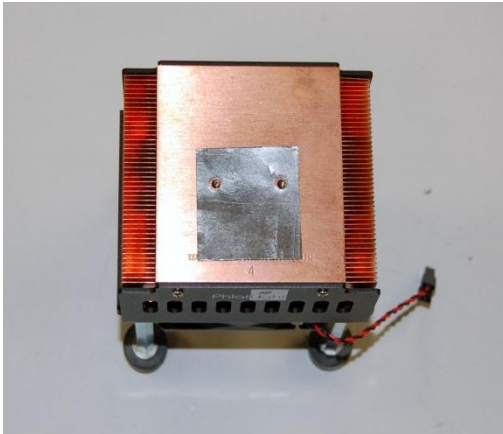

Figure 8: Thermal interface sheet on heat sink
2. The heat sink surface must be free of dust particles. Place the thermal interface sheet on the heat sink with its pre-drilled holes matching the holes on the heat sink (Figure 8).